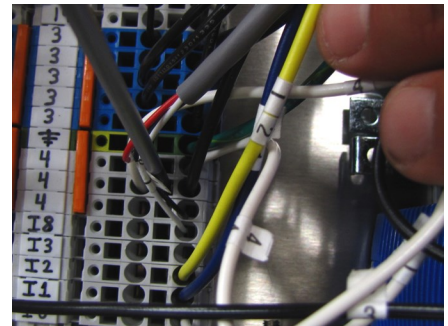

Figure 15
15. Use a small flat head screwdriver to loosen the pinch on the #i1 blue, #i2 yellow, #4 red, and #4 black wires. Insert the small flat head screwdriver into the square hole immediately adjacent to the wire. Press straight down with the screwdriver and the wire will be released. Pull the wire from the connector and remove the screwdriver. See Figure 15.